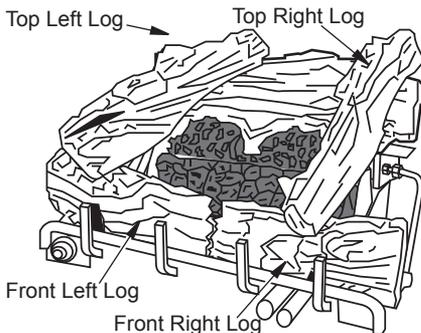

Figure 27 - Installing Logs
4. Place top left log as shown in Figure 27. The bottom of the log is shaped to fit into the recessed areas of the front left log and the rear log. The recessed areas are painted yellow.
5. Place top right log as shown in Figure 27. The bottom of the log is shaped to fit into the recessed areas of the front right log and the rear log. The recessed areas are painted yellow.